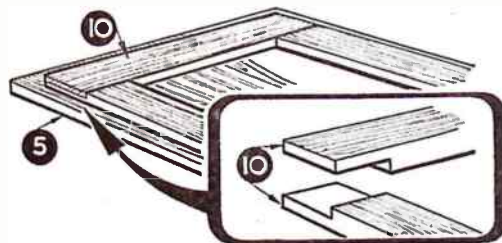
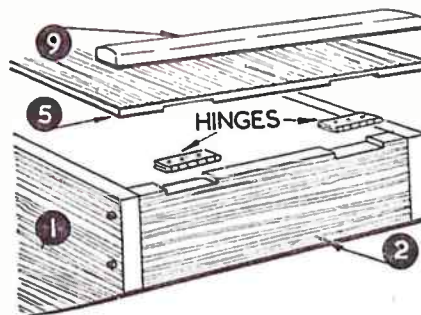

Fig. 2
Fig. 4
The construction of the two lids is seen on the design sheet and in Fig. 2. They consist of pieces of 1in. by 3/4in. stripwood (10), halved together to form frames. These are glued and pinned underneath pieces 5, 3/4in. all round from the edges. When the lids are lowered the frames fit into the squares formed by the ends, sides and piece 6. Pieces 9 at the hinged end of the lids can now be glued on, as seen in Fig. 4.
The back can now be fitted. This will consist of similar boards, but put on horizontally this time. The boards should be marked off and nailed on one at a time. They are nailed into the back edge of the side board (L). See Fig. 4. Nails are also driven into the back of the floor, through the bottom board of the back (K).
The back boards should come to the same height as the shoulder of (L) Fig. 4. The top edge of the back can be chamfered with a plane so that it continues the slope of the side, and so make a close fit with the roof to be put on later.